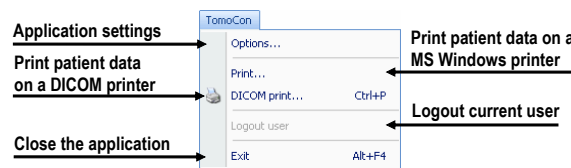

Figure 31 – TomoCon menu
- **TomoCon** – main application sub-menu for defining application settings, printing (image data printing on Microsoft Windows printer, DICOM printer, logging in to or out from the application or terminating it), see Figure 31.